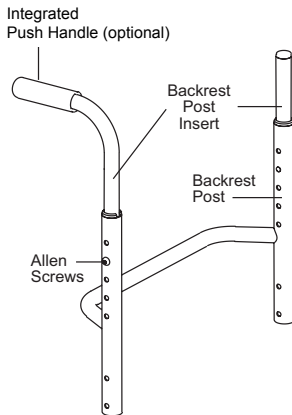

Figure 29
2. On both sides of the chair, remove the Allen Screw that secures the backrest post inserts inside the backrest post. See Figure 29.